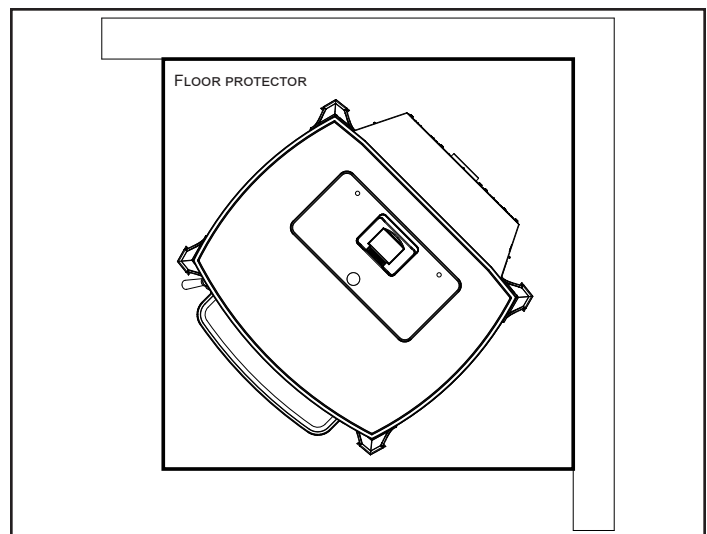

Figure 3.4
**Note:** This will allow the floor protection to touch the wall as shown. Figure 3.4.